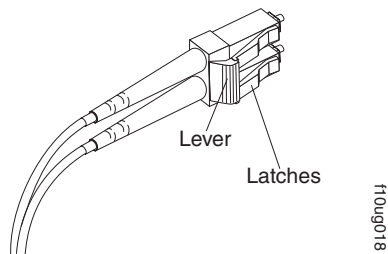

Figure 47. LC-LC fibre-channel cable lever and latches
1. On the end of the cable that connects into the LC connector end of the LC-SC cable adapter, press down and hold the lever to release the latches. Figure 47 shows the location of the lever and latches.